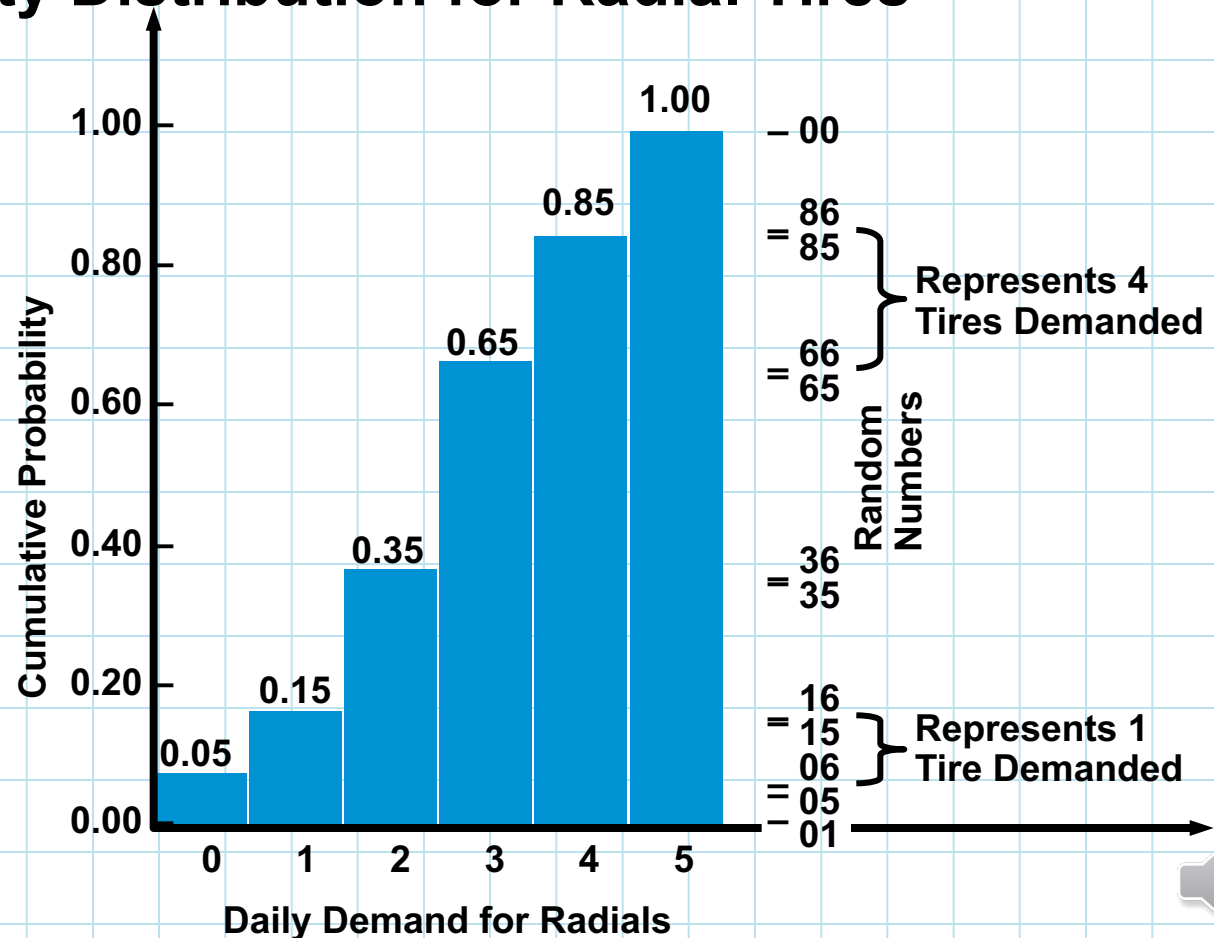

Figure 14.2
- The range of the random number intervals corresponds *exactly* to the probability of the outcomes as shown in Figure 14.2.